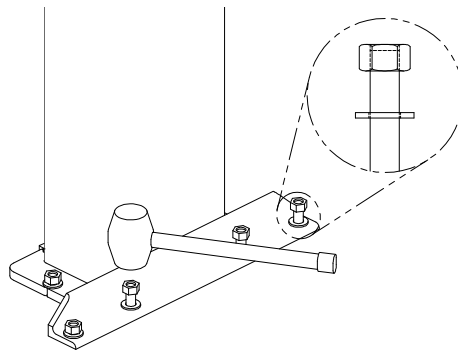

**Figure 4**
4. **Carriage Placement.** Disengage the latch by pulling out the latch rod at bottom of one carriage, figure 4. Slide the carriage to the leg's baseplate. Engage the latch by pushing the latch rod in. Slide the carriage up until the first "click" is heard. Repeat the process for the other carriage.
- \* Wiring Diagram / Instructions, Figure 4